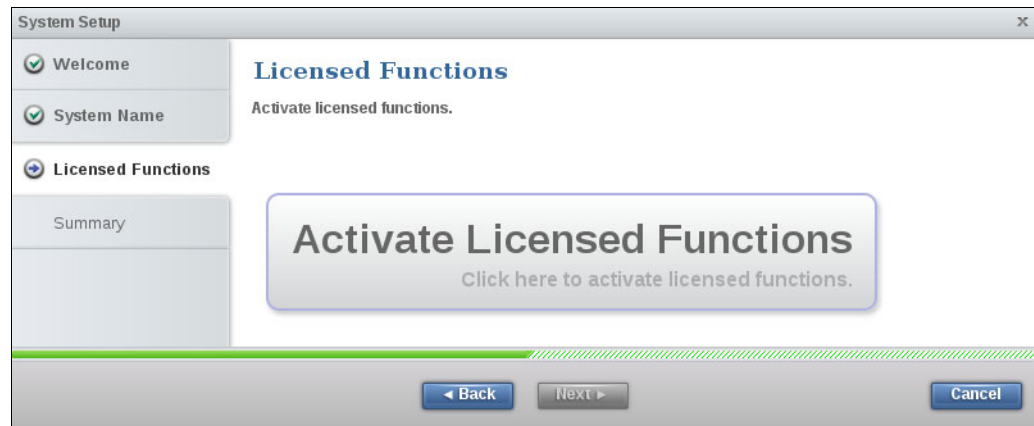

Figure 11-5 System Setup: Licensed Functions window
2. Click **Next**. The Licensed Functions window opens. Click **Activate Licensed Functions** as indicated in Figure 11-5.